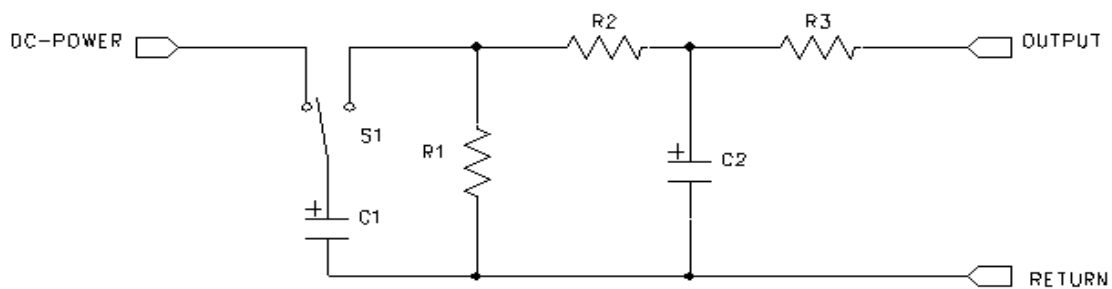

Figure 1.
Note that the peak amplitude of the measured output waveform is proportional to the voltage that is read on the front panel of the MegaPulse, but it will always be somewhat lower. This is because the meter on the MegaPulse is measuring the voltage on the main impulse storage capacitor (C1 in Figure 1). This voltage will intentionally dissipate to some extent before reaching the output leads. Therefore, it is important to measure the peak amplitude of the output waveform, and adjust the output of the MegaPulse accordingly.
Specifications for each individual model in the MegaPulse series are listed in Table 1. Component designations referenced in Table 1 are as shown in Figure 1.
8. Note that the peak amplitude of the measured output waveform is proportional to the voltage that is read of the front panel of the MegaPulse, but it will always be somewhat lower. This is because the meter on the MegaPulse is measuring the voltage on the main impulse storage capacitor (C1 in Figure 1). This voltage will intentionally dissipate to some extent before reaching the output leads. Therefore, it is important to measure the peak amplitude of the output waveform, and adjust the output of the MegaPulse accordingly.